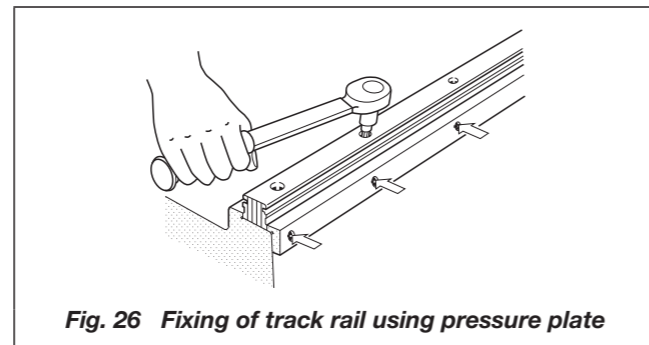

Fig. 26 Fixing of track rail using pressure plate
③Final fixing of Linear Way I and II track rails
- Firmly press the reference mounting surface of Linear Way I track rail to the mating reference surface of the bed with pressure plates or pressure screws. Tighten the mounting bolt of the track rail at the pressure plate or screw position from one end of the track rail to the other in succession. (See Fig. 26.)